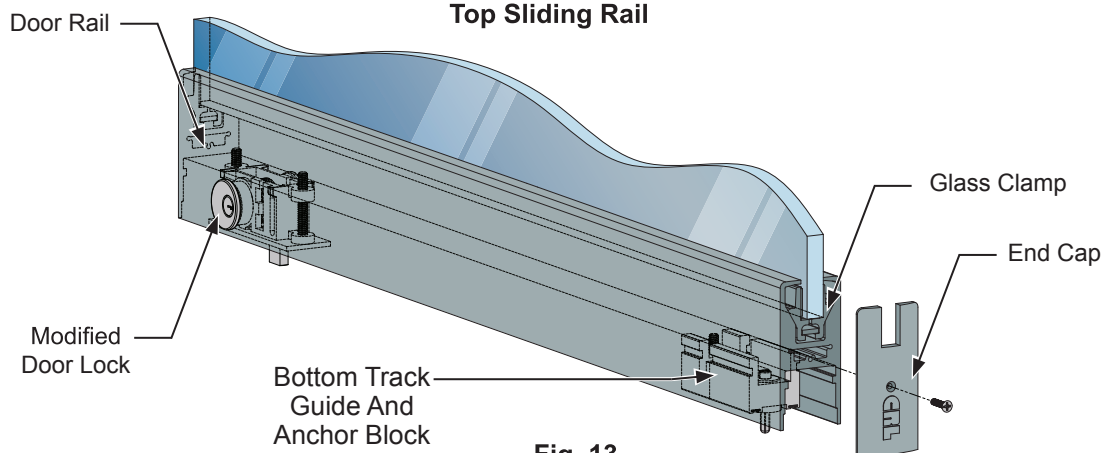

Fig. 13
1. Remove both End Caps from the rail. **(Fig. 13)**